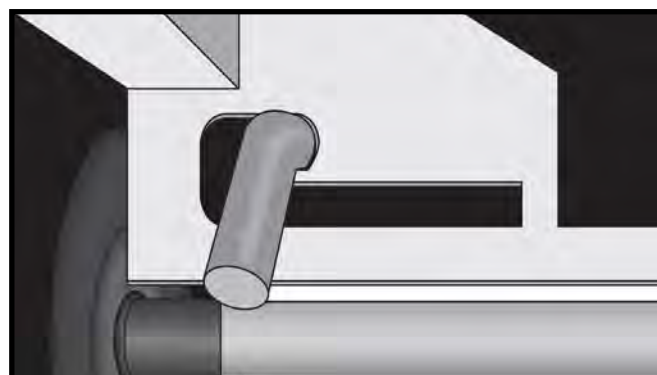

Figure 23: First-Generation Cart Brake Lever Position for Manual Towing
- In the event of a loss of battery power or another issue with the drive system, the cart can be manually towed. In this case, the brake lever should be in Position B (Figure 23), and the cart should be towed at a maximum speed of 3 mph. Higher speeds may cause a tip hazard or damage to the electric drive system.